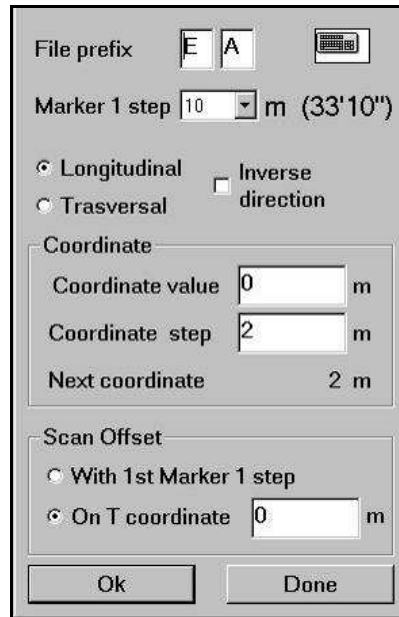

Fig. 4-28 – Acquisition Parameters Window
2. To set the starting point coordinates, press the  button from the window shown in Fig. 4-27; this opens the window shown in Fig. 4-28.
3. The following acquisition parameters can be selected from the window shown in Fig. 4-28:
For example, for the case of the Transversal scans shown in Fig. 4-30, first we select the scan type (in this case Transversal) in the “*Scan Settings*” window (Fig. 4-28). Then we set the current value of the T co-ordinate (2m in this case) in the “*Coordinate (m)*” field; finally, we activate the “*With 1st Marker*” option in the “*Scan Offset (m)*” field. In this way, the acquisition starts in the negative L portion, and when the centerpoint of the antenna trolley passes across the zero line, the Marker 1 button has to be pressed. The trolley is then pushed to the end of the scan. When the stop acquisition button is pressed, the system automatically associates a negative co-ordinate to the initial portion of the file of the scan that has been performed